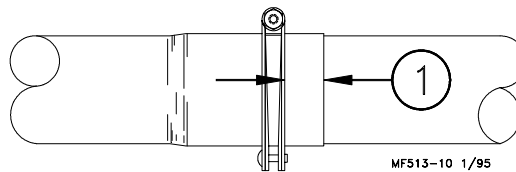

Figure 35. Clamp Installation (Side View).
Place a Clamp/Anti-Roost Bracket at the Hopper and at each of the Bells in the Brood End of the building. See Figure 35 for location.
Continue down the entire length of the feeder line so that every joint is secured with a standard Clamp or Clamp/Anti-Roost Bracket. Figure 35 shows the proper clamp location on the tube joint. Do not tighten the clamp at this time.
- make sure the clamps are located, as shown in Figure 35.